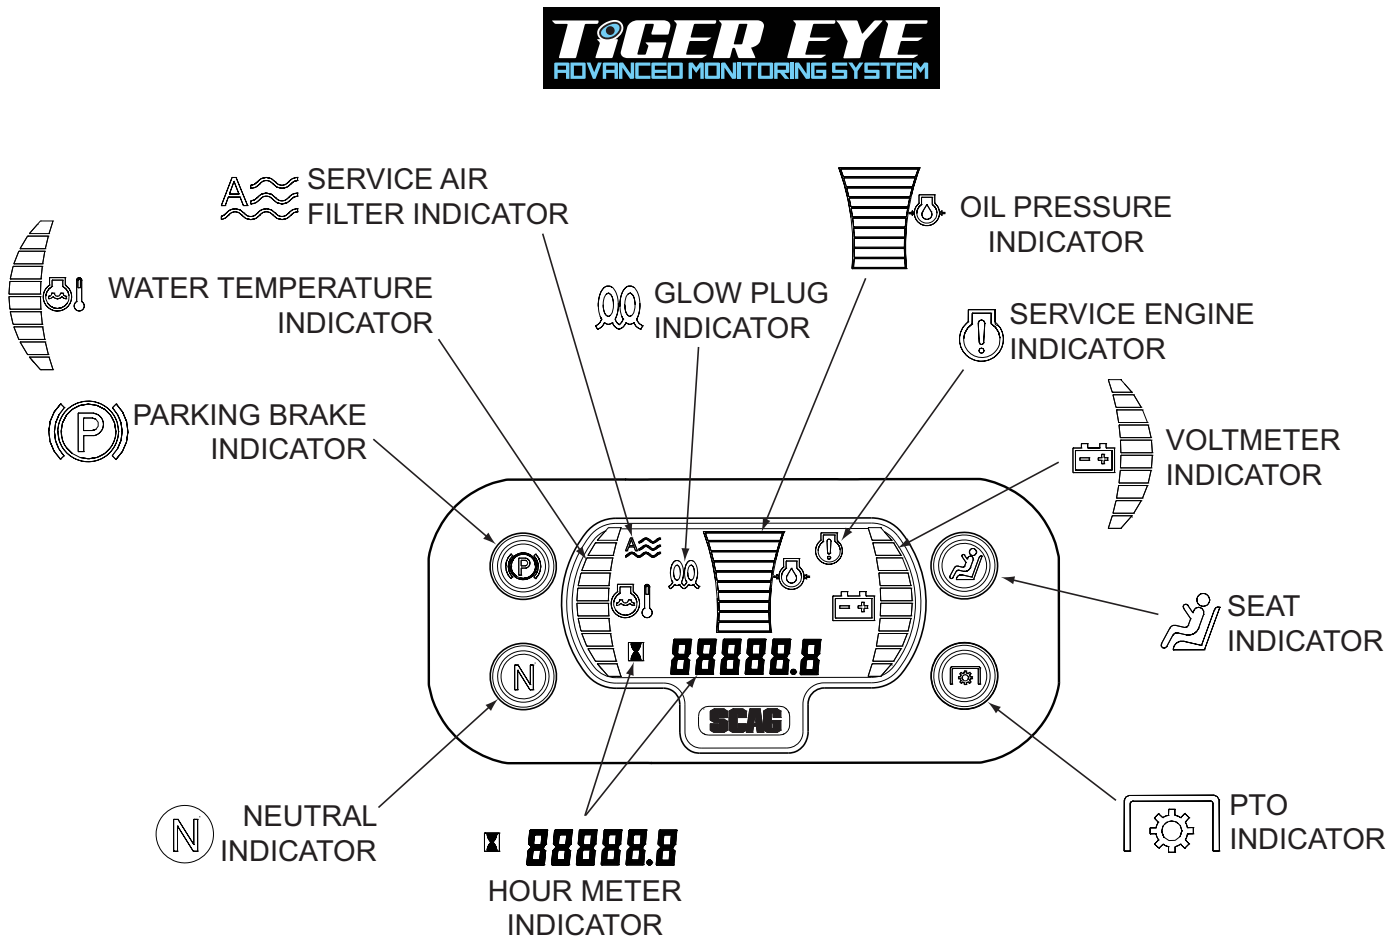

Figure 4-1. Tiger Eye Advanced Monitoring System
1. **Service Air Filter Indicator (Figure 4-1). Optional Accessory.** Indicates the condition of the engine air filter. Icon will display when it is time to change the air filter.
2. **Glow Plug Indicator (Figure 4-1). Used on Diesel Powered Units Only.** Indicator turns on when the key switch is turned to the ON position. Glow plug timer will cycle on for approximately 5 seconds as glow plugs preheat. At the end of the cycle, the indicator will turn off. Glow plugs must be preheated before starting the engine.
3. **Oil Pressure Indicator (Figure 4-1). Used on Diesel Powered Units Only.** Indicates engine oil pressure. Reference the engine operator's manual for further information.
4. **Service Engine Indicator (Figure 4-1).** Indicates the maintenance reminder for the engine oil change. Has preset maintenance reminder and will start flashing scheduled maintenance 2 hours before preset time and continue flashing until 2 hours after. Automatically resets.
5. **Voltmeter Indicator (Figure 4-1).** Indicates the condition of the charging system. When the engine is running, in normal operating conditions, the bar graph should be in the 12 to 14 volt range.
6. **Seat Indicator (Figure 4-1).** Light will illuminate when the operator is in the seat engaging the seat switch.
7. **PTO Indicator (Figure 4-1).** Light will illuminate when the PTO (mower deck) switch is in the OFF position.
8. **Hour Meter Indicator (Figure 4-1).** Indicates the number of hours the engine has been operated. It only operates when the engine is running. Will start flashing with the Service Engine Indicator at scheduled maintenance 2 hours before preset time and continue flashing until 2 hours after. Automatically resets.
9. **Neutral Indicator (Figure 4-1).** Light will illuminate when the steering control levers are in the neutral lock position.
10. **Park Brake Indicator (Figure 4-1).** Light will illuminate when the park brake is in the engaged (ON) position.
11. **Water Temperature Indicator (Figure 4-1). Used on Liquid Cooled Models Only.** Indicates the operating temperature of the engine. If the engine temperature exceeds the maximum preset value, the indicator will flash and the Park Brake, PTO, Seat and Neutral indicator lights will flash in an alternating pattern.